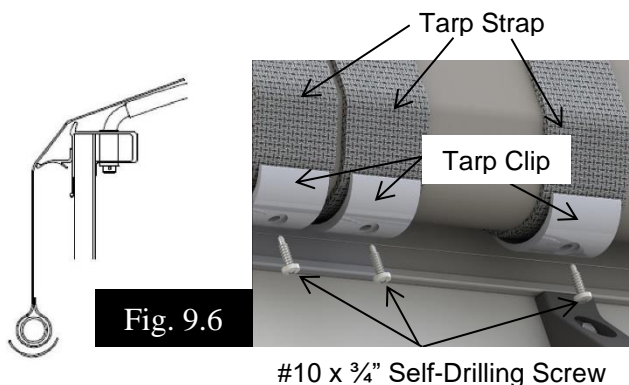

Fig. 9.6
9. Replace all tarp clips using the supplied #10 x 3/4" self-drilling screws as shown in figure 9.6.